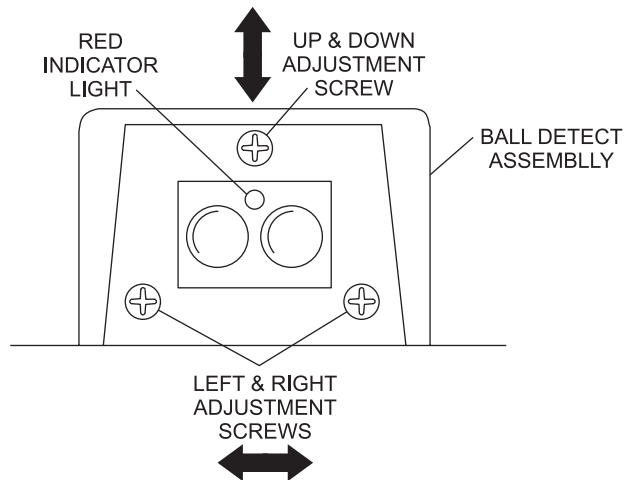

Figure 2
The ball detect assembly uses an infrared light which cannot be seen without an optical aid. Therefore, it has a red indicator light on the face of the unit that will light when insufficient infrared light is reflected back to it. Refer to Figure 2.
5. If the beam is not centered on the covered reflector, it can be adjusted with the three adjustment screws in the face of the unit. The top screw moves the beam up and down. A clockwise turn moves the beam down while a counterclockwise turn will move it up. Refer to Figure 2.
6. The side screws will move the beam left to right. Refer to Figure 2.